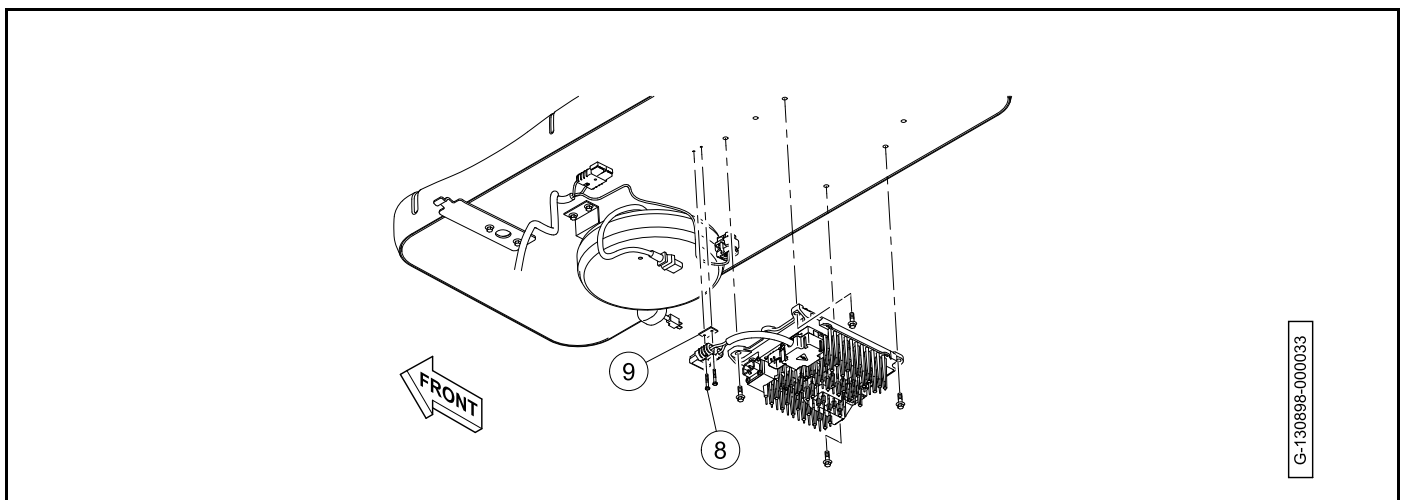

Figure 15-34 Charger Power Harness Connector Screws
9. Disconnect the 14-pin connector (7) from battery charger.
10. Remove the screws (8). Retain the insulator (9) (Figure 15-34).
7. Disconnect the charger harness (5) from the charger power harness (6).
8. Disconnect the 14-pin connector (7) from battery charger.
- Remove the nuts (8), screws (9), and insulator (10) (**Figure 15-34**). Retain the insulator.